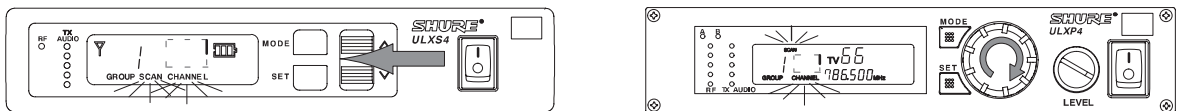

FIGURE 10
- Press the \uparrow or \downarrow buttons (ULXS4) or rotate the control knob (ULXP4) clockwise one quarter turn. The next open Channel number will appear on the display, as shown in Figure 10.